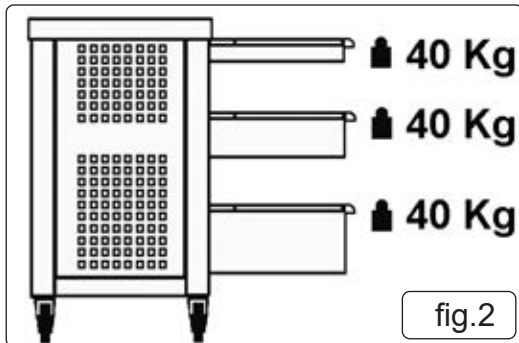

fig.2
- ❑ **WARNING!** Only open one drawer at a time and **DO NOT** overload the drawers, fig.2 shows the maximum weight per drawer size.